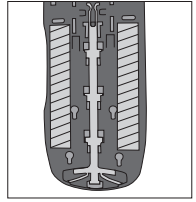

figure 3
2. Peel off paper from back of tape (supplied). Press dispenser firmly to the wall and hold for at least 30 seconds to make sure tape has completely adhered to the wall (see figure 3).